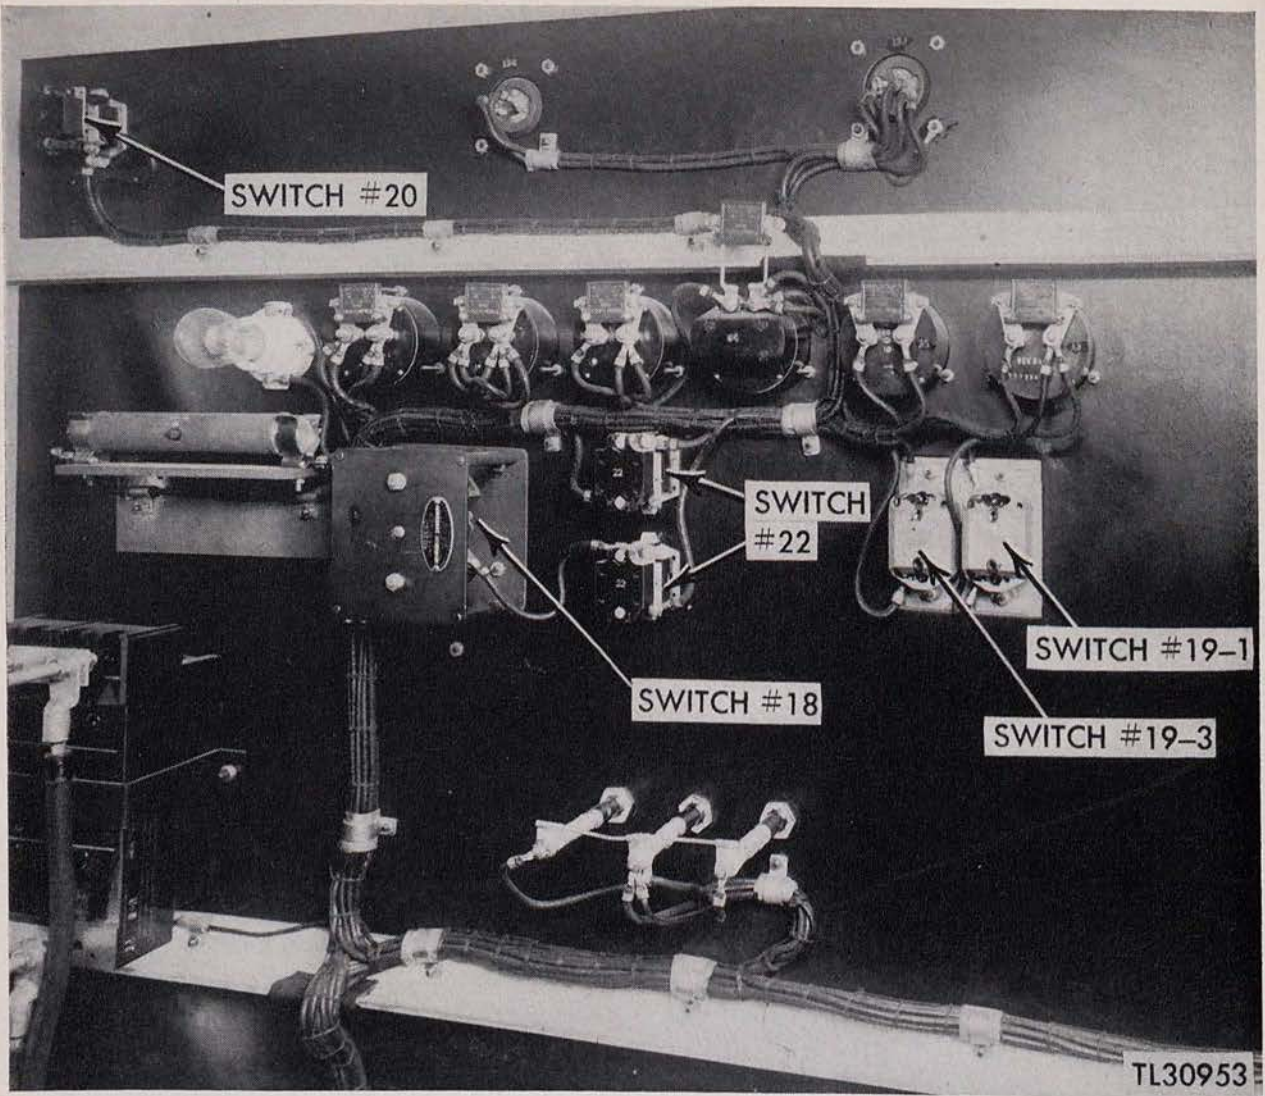

Figure 101. Rectifier RA-60-A, showing location of switches 18, 19 (1 and 3), 20, and 22.
122. Key Switch 18 (fig. 101)
123. Switches 19 (1-3) (fig. 101)
(1) Remove the two switch mounting bolts, nuts, and washers on the panel (figs. 101 and 102).
(2) Pull the switch away from the rear of the panel and turn it over.
124. Emergency Stop Switch 20 (fig. 101)